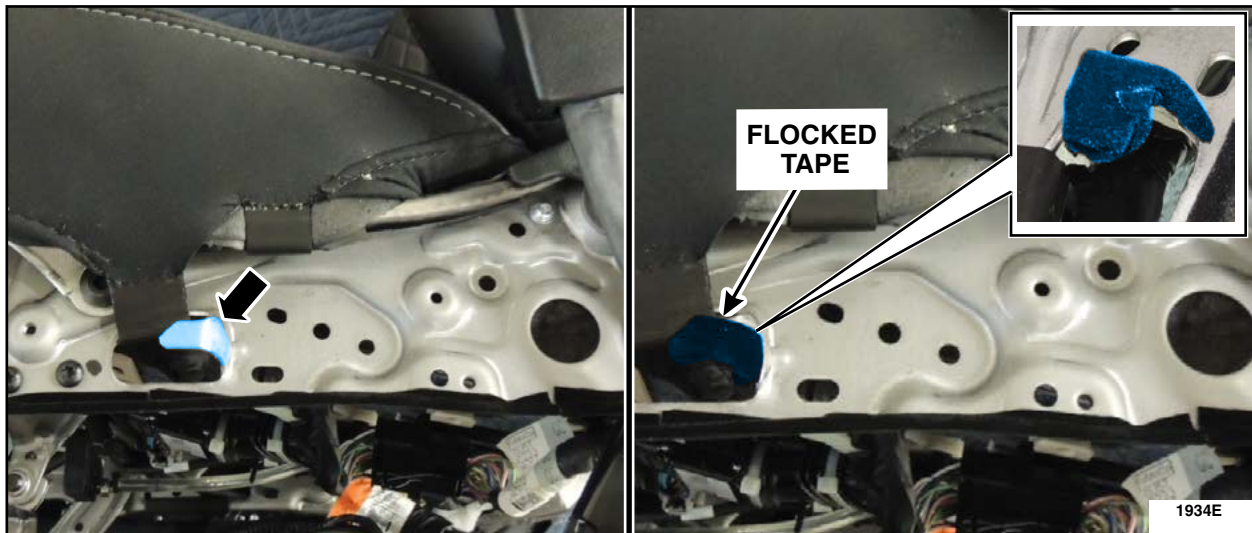

FIGURE 9
11. Using the 38.1 mm (1.5 in) piece of uncut flocked tape, peel the backing off and apply it to the middle tab. See Figure 9.